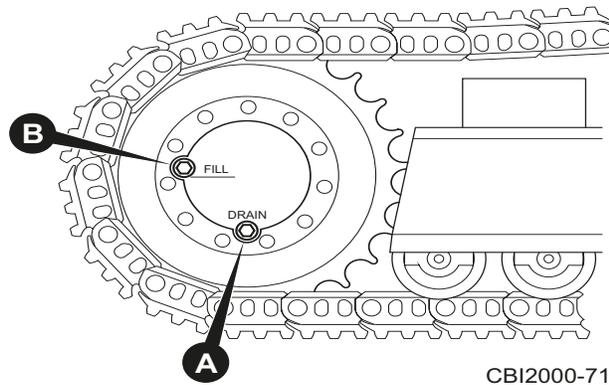

Figure 6.34 - Track Drain and Fill Plugs
1. Position Machine - Position the machine so that the track gearbox is rotated with its drain plug (Figure 6.34 / A) in the lowermost position. The machine should be on level ground.
3. Remove Fill Plug - Remove the fill plug (Figure 6.34 / B) from the gearbox.